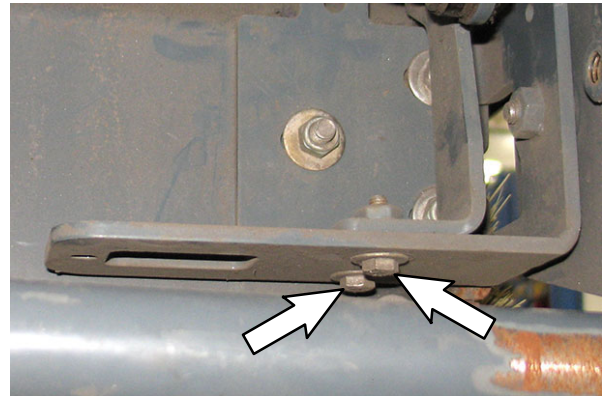

FIG. 10
12. Remove the bearing mounting bracket from the left pivot mounting bracket. Set the bearing mounting bracket and hardware aside. (Fig. 10)